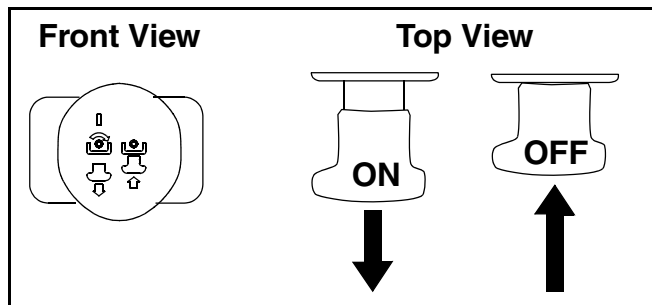

Figure 9
- Pull the PTO/Blade Engage knob outward into the engaged (ON) position. See Figure 9.